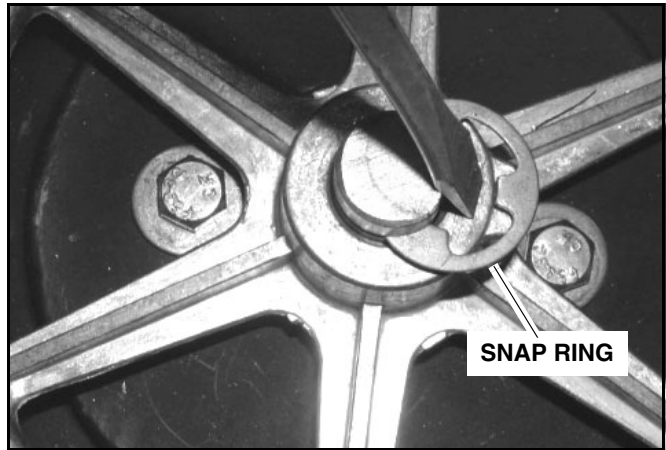

Figure 2
2. Remove pulley E-ring (See Figure 2).